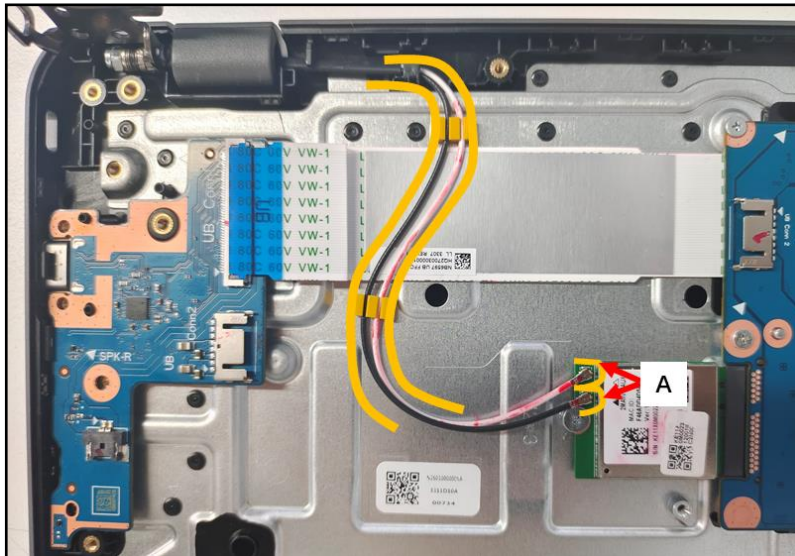

Figure 3-28. LCD Module Removal
9. Disconnect the WLAN antennas cables from the WLAN module connectors (A). Then unroute the WLAN antennas cables from the cable guides (Figure 3-28).